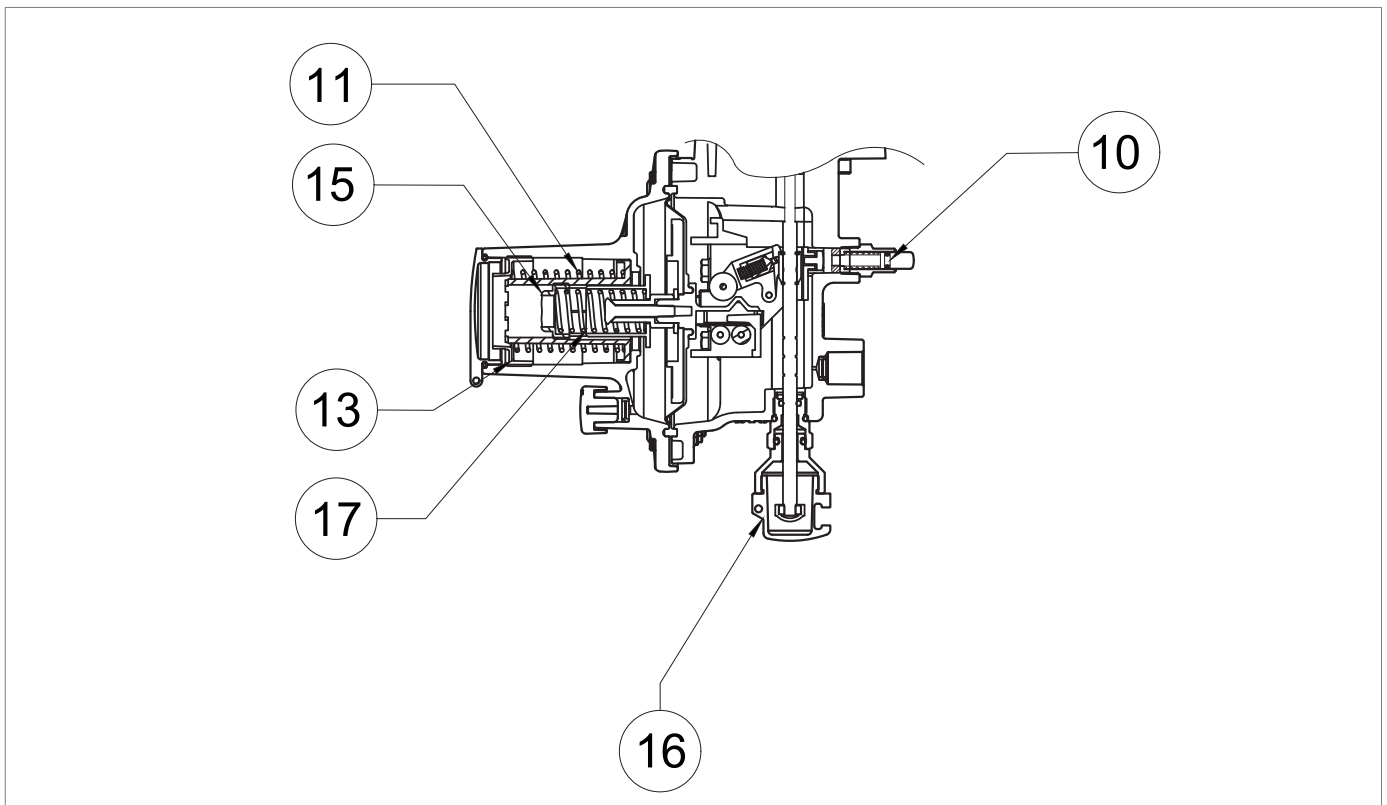

Fig. 8.26. LA Slam-shut valve calibration
4	If the slam-shut valve: <ul style="list-style-type: none"> trips before the expected pressure value: unscrew (counterclockwise direction) the adjustment ring nut (fig. 8.20, ref. 3) so as to unload the spring (fig. 8.26, ref. 17); does not trip at the expected pressure value: screw (clockwise) the adjustment ring nut (fig. 8.20, ref. 3), so as to compress the spring more (fig. 8.26, ref. 17).
6	Open the slam-shut valve by acting on the reset knob (fig. 8.26, ref. 16) and keep it open manually.
8	Arming the slam-shut valve by acting on the reset knob (fig. 8.26, ref. 16).